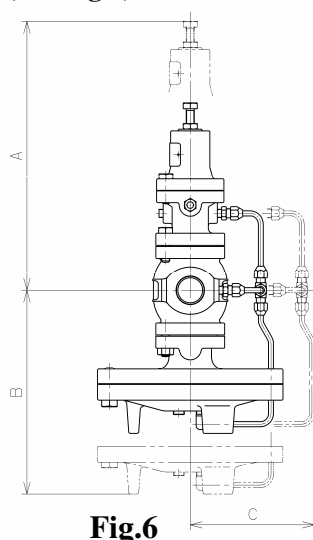

Fig.6
- (1) Install the valve perpendicularly to horizontal lines.
- (2) Provide the by-pass line. (See 6.1 Example of piping)
- (3) When the pressure reducing ratio is large, install a reducer to keep the flow velocity in the pipe below 30 m/s or less.
- (4) Provide space on the top and bottom of the valve so that the valve can be easily disassembled and inspected. (See Fig.6)